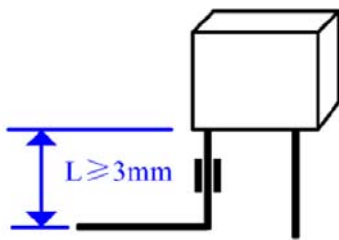

Figure 1
10.2 Use radio pinchers to bend the wire as shown in Fig.1 and not to damage the molded section of the case and the lead wire. 使用工具钳子如图1要求弯折引脚，并且不要损坏外壳和引脚之间的主体